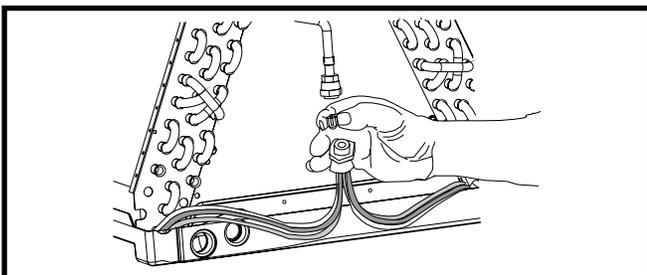

Figure 4. Restrictor Insertion into Distributor Body
- Insert the new orifice into the distributor body, rounded end down. See Figure 4.